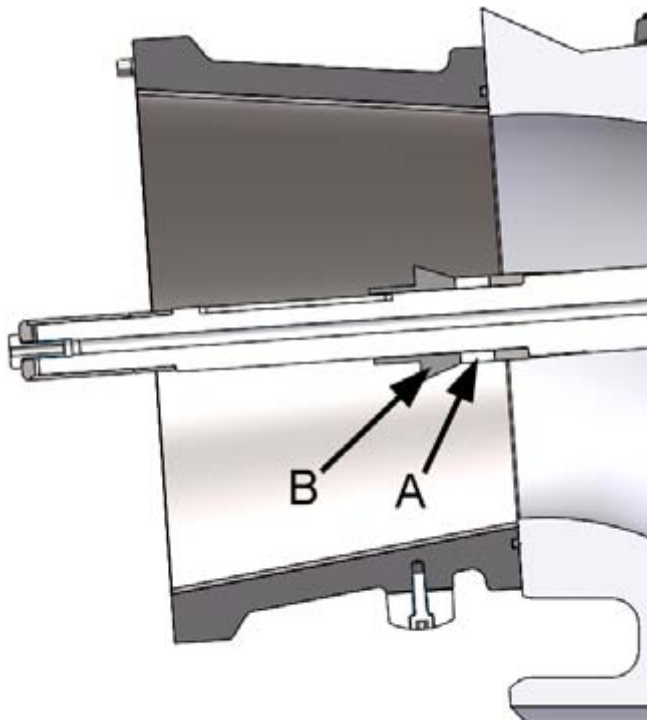

Figure 32. Adjuster sleeve
The thrust caused by the impeller is transmitted through the adjuster sleeve to the shaft (figure 32, point A). The sleeve consists of rings of different thickness. The length of the sleeve can be adjusted in 0.5 mm (approx. 0.02") increments by changing the number of the rings. This way the impeller gap on the outer race becomes fit.
3. Push the sleeve and the plastic insulating ring onto to the shaft (figure 32, point B). The insulating ring sits against the impeller.